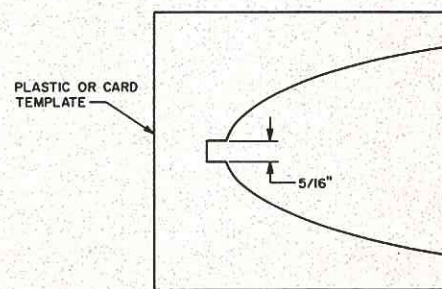

FIGURE 5
e) Make the template of the spinner shape from styrene sheet or card, as shown in Fig. 5.